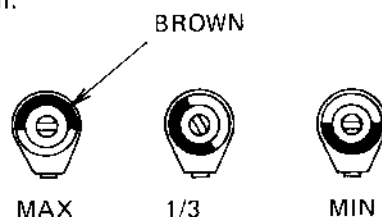

Fig. 1
- (1) Connect a dummy load/wattmeter to the rear panel ANT jack.
- (2) Set the RF/AF gain controls fully clockwise, set the MODE switch to FSK, and set TC2506 to the 1/3 capacitance setting, as shown in Fig. 1.
- (3) Set the BAND switch to 10D, set the main tuning dial for a reading of 30.000 MHz, and set the PRESELECT control to the upper end of the 10 meter band (fully clockwise). Set the LOAD control to 3, and dip the PLATE CONTROL while tuning.
- (4) Set the CARR control to the 12 o'clock position. Set the VOX GAIN control to MOX (for not more than 10 seconds), and carefully adjust T2 and T3 for maximum IC reading on the meter. Be sure that the bonding agent has been removed before you adjust the cores.
- (5) While receiving, set the MARKER switch ON, and tune to the calibrator signal. Adjust T1 for maximum S-meter deflection.
- (6) Now set the BAND switch to 10A, set the VFO for a display frequency of 28.000 MHz, and peak the PRESELECT control for maximum PO while tuning. Dip the PLATE control for minimum IC indication. Now set the VOX GAIN switch to MOX, and adjust TC2506 maximum IC indication on the meter (FSK mode, still).
- (7) Set the MARKER switch ON, and tune to the calibrator signal. Peak TC2406 for maximum S-meter deflection.
- (8) As there may be some interaction of adjustments, please repeat steps (3) through (7).
- (9) Adjust the final amplifier neutralization, as described on page 45.
- (10) Again repeat steps (3) through (8).
- (11) Now you are ready to align the other bands. Set the BAND switch to 15, set the main tuning dial for a reading of 21.000 MHz, and set the PRESELECT control at 8.6 on its scale. Dip the PLATE control for minimum IC indication while tuning. Set the VOX GAIN control to MOX, and adjust TC2605 and TC2505 for maximum PO indication on the meter. On receive, tune in the MARKER signal, and adjust TC2405 for maximum S-meter deflection.
- (12) Set the BAND switch to 20, set the VFO for a frequency of 14.000 MHz, and set the PRESELECT control to 7.2 on its scale. Dip the PLATE control for minimum IC indication while tuning. Set the VOX GAIN control to MOX, and adjust TC2604 for maximum PO indication on the meter. On receive, tune in the MARKER signal, and adjust TC2404 for maximum S-meter deflection.